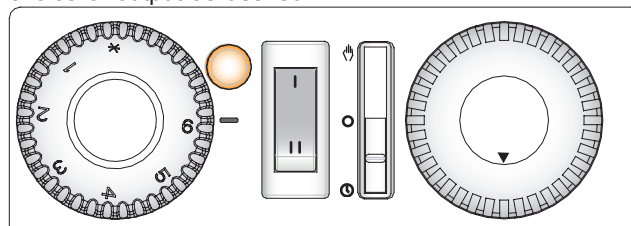

Fig. 5
**Control of Output and Temperature** (see Fig. 5)
The heater must be connected to the electricity supply for the timer to operate. Set the timer by rotating the dial clockwise until the correct time of day is indicated opposite the datum mark (located at centre front of the timer - see Fig. 5).